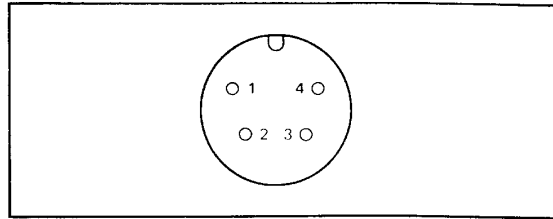

Figure 7-26. Pin Orientation on RF Detector Connector
- d. Connect digital multimeter between pins 1 and 2 of detector connector (Figure 7-26) and measure the resistance of R1 (typical value is 40.5k $\Omega$ ). This resistance value is hereafter known as RT; record this value.